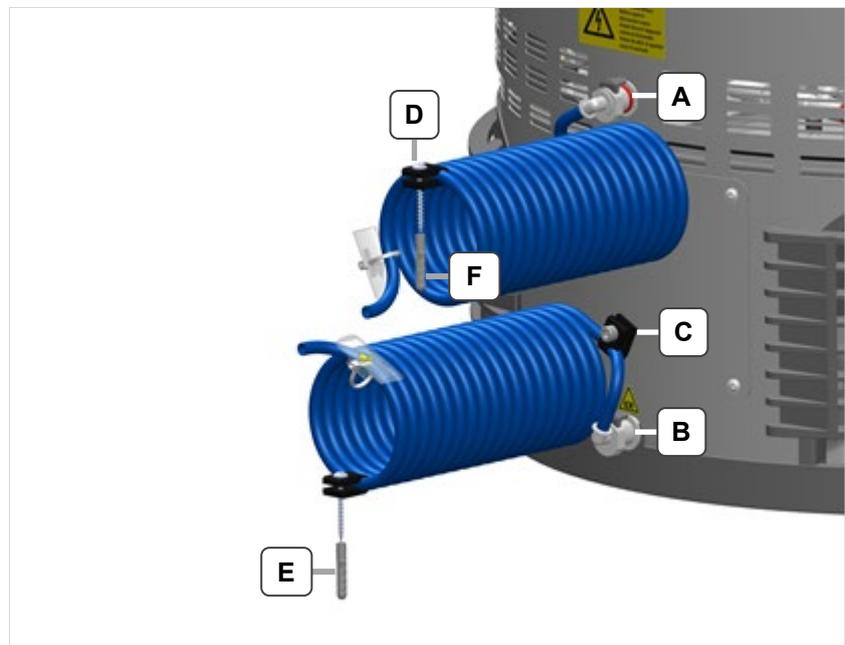

Fig. 4.3.1 Ventilation connections
Due to the process, vapors of the cleaning and rinsing media discharge at the openings provided for them on the rear side of the cleaning machine (*Fig. 4.3.1.A/B*). This area is considered as an area with increased risk of explosion if the safety precautions are not complied with.
1. Connect the 2 exhaust air tubes (included in the scope of delivery) to the respective connections *Fig. 4.3.1.A* and *Fig. 4.3.1.B*. In doing so, the connection coupling must audibly engage in each case!
2. Fix the exhaust air tubes using the fixing clamps provided for them. *Fig. 4.3.1. C*
2. Fix the exhaust air tubes using the fixing clamps provided for them. *Fig. 4.3.1.C*.
3. It is possible to fix the exhaust air tubes using the fastening material (included in the scope of delivery, *Fig. 4.3.1.D,F,G*).